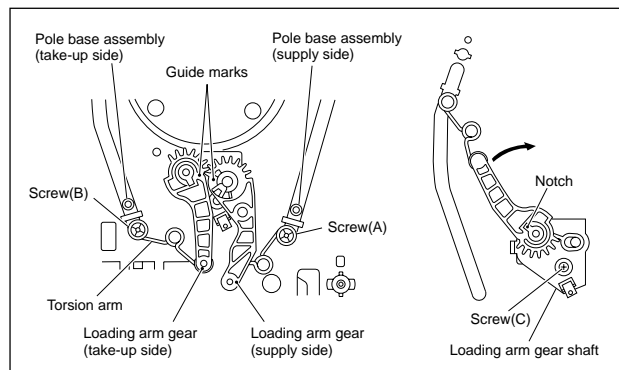
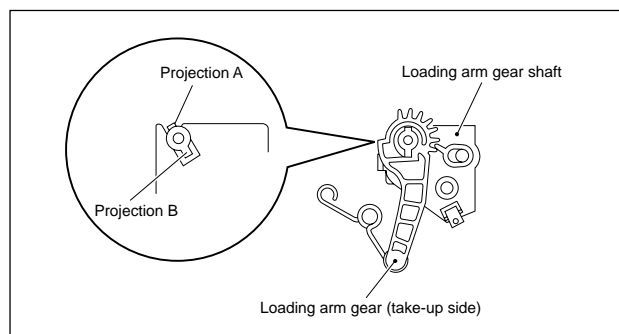

Fig. 2-2-16a
Fig. 2-2-16b
- (1) Remove the loading arm gear (supply side) by loosening the screw (A). (See Fig. 2-2-16a.)
- (2) Remove the screw (B) and remove the torsion arm from the pole base assembly (take-up side). (See Fig.2-2-16a.)
- (3) Turn the loading arm gear (take-up side) clockwise so that the notch of the loading arm gear (take-up side) is in alignment with the projection of the loading arm gear shaft and lift it.
Likewise, turn the loading arm counterclockwise so that the notch is in alignment with the projection and remove the loading arm gear (take-up side). (See Fig.2-2-16a and Fig. 2-2-16b.)
- (1) Align the notch of the loading arm gear (take-up side) to the projection B of the loading arm gear shaft and slip it over. Then rotate it clockwise for alignment with the projection A and slip it down to the bottom. (See Fig.2-2-16b.)
- (2) Then turn the loading arm gear (take-up side) counterclockwise. Hang the torsion arm on the pole base assembly (take-up side) and tighten the screw (B).
- (3) Install the loading arm gear (supply side) so that the guide mark of the loading arm gear (take-up side) is in alignment with the guide mark of the loading arm gear (supply side). Then hang the torsion arm on the pole base assembly (supply side) and tighten the screw (A). (See Fig.2-2-16a.)